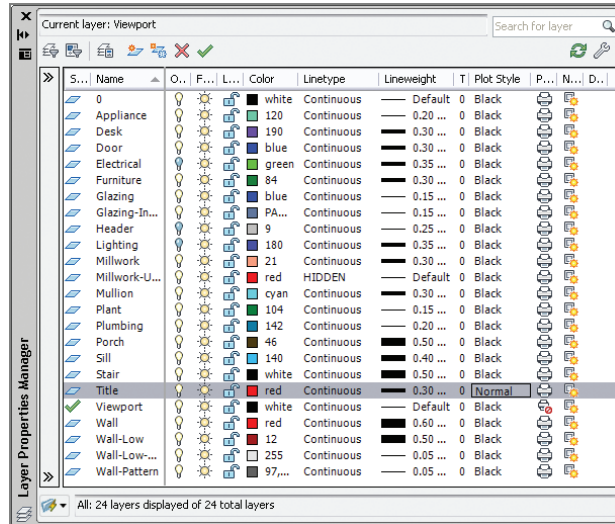

FIGURE 14.18 Configuring named plot styles by layer
- Click the Title layer in the Layer Properties Manager to select it; all the other layers automatically deselect. Click the Plot Style on the Title layer, and change it to Normal in the Select Plot Style dialog box that appears (see Figure 14.18). The title text will now appear in red.